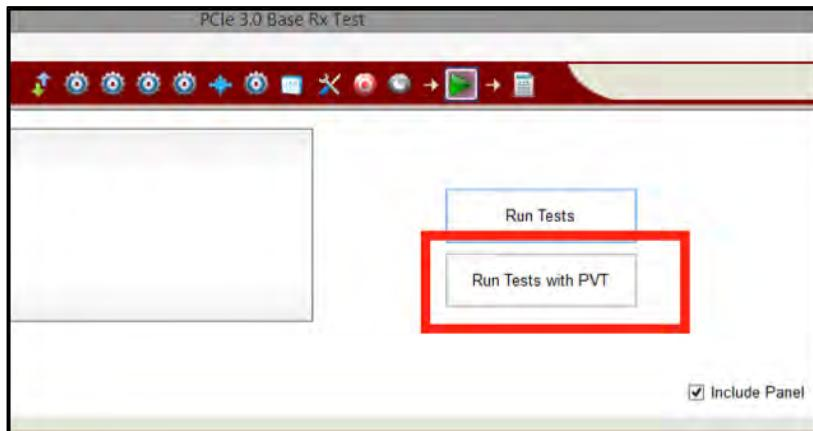

FIGURE 114 RUN TESTS WITH PVT
- Run the tests using the “Run Tests with PVT” button (see Figure 114).